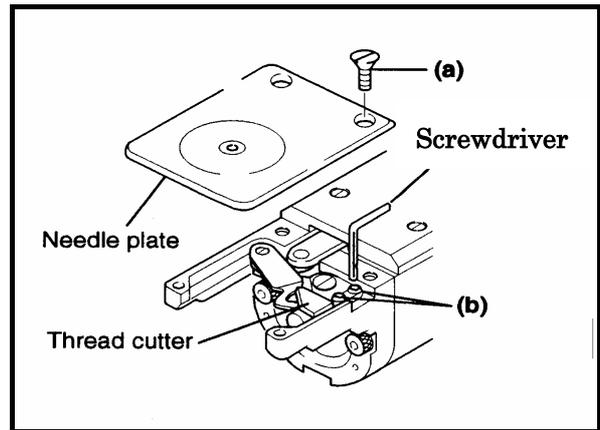

FIG.1
- (1) Remove the table set.
- (2) Remove two setting screws (a) detach the needle plate. (Fig.1)
- (3) Remove two set screws (b) and detach the thread cutter. (Fig.1)